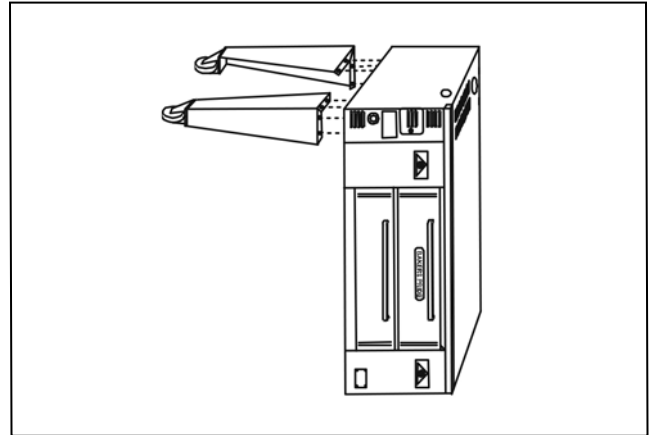

Figure 4
- a) Bolt four legs to the four of the stand using the supplied 3/8-16 x 3/4 bolts, flat washers, and lock washers. (See Fig. 4).